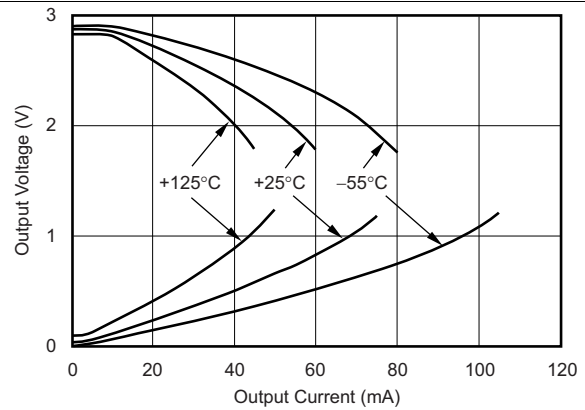
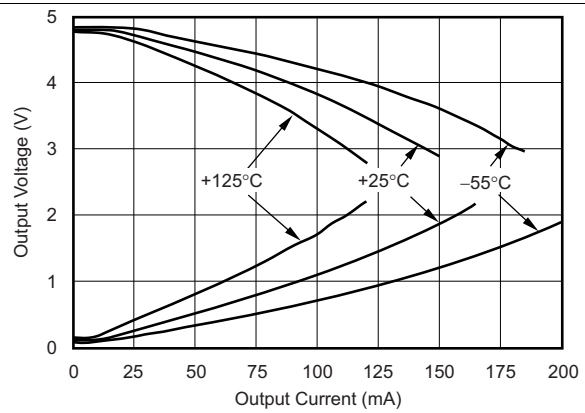

Figure 20. Output Voltage Swing vs Output Current for $V_S = 3\text{ V}$
Figure 22. Output Voltage Swing vs Output Current for $V_S = 5\text{ V}$
(1) See typical characteristic curves, *Output Voltage Swing vs Output Current* (Figure 20 and Figure 22).
(2) Specified by design.
A class AB output stage with common-source transistors is used to achieve rail-to-rail output. For high-impedance loads ($> 200 \Omega$), the output voltage swing is typically 100 mV from the supply rails. With 10- Ω loads, a useful output swing can be achieved while maintaining high open-loop gain. See the typical characteristic curves, *Output Voltage Swing vs Output Current* (Figure 20 and Figure 22).
The TLV3544-Q1 output stage can supply a continuous output current of ± 100 mA and yet provide approximately 2.7 V of output swing on a 5-V supply, as shown in Figure 30. For maximum reliability, TI does not recommend running a continuous DC current in excess of ± 100 mA. Refer to the typical characteristic curves, *Output Voltage Swing vs Output Current* (Figure 20 and Figure 22). For supplying continuous output currents greater than ± 100 mA, the TLV3544-Q1 may be operated in parallel, as shown in Figure 31.